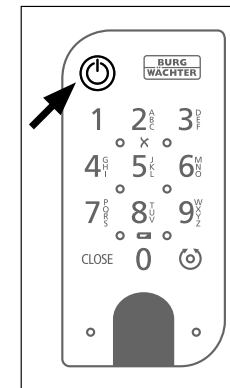
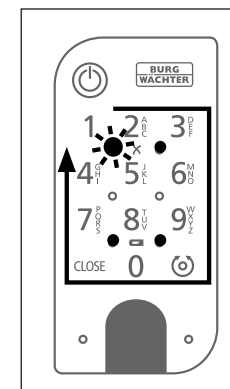

Fig. 23
Fig. 25
⑩ Activate the keypad with the ON button (Fig. 23).
⑫ Press and hold the CLOSE button for five seconds (II) (Fig. 23) until the signal LEDs on the keypad illuminate one after the other in a clockwise direction (Fig. 25).